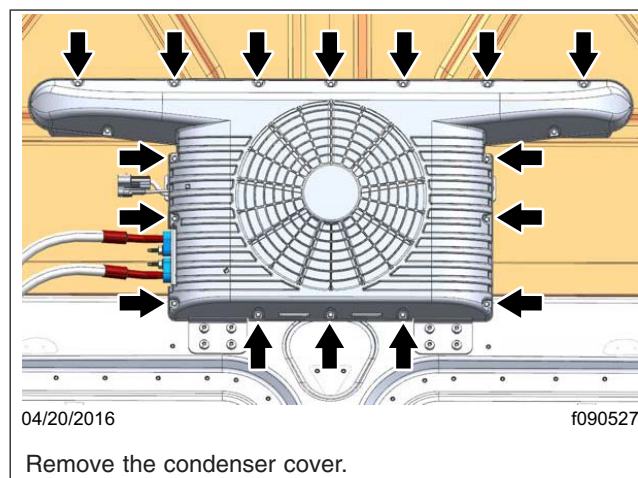
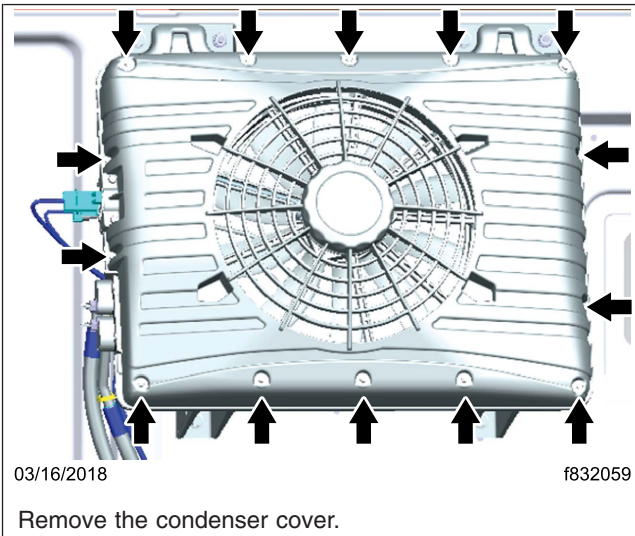

Fig. 11, Condenser Cover Fasteners (wide style condenser)
Fig. 12, Condenser Cover Fasteners (compact style condenser)
2. If needed, remove the condenser cover fasteners, then remove the cover. See Fig. 11 or Fig. 12.